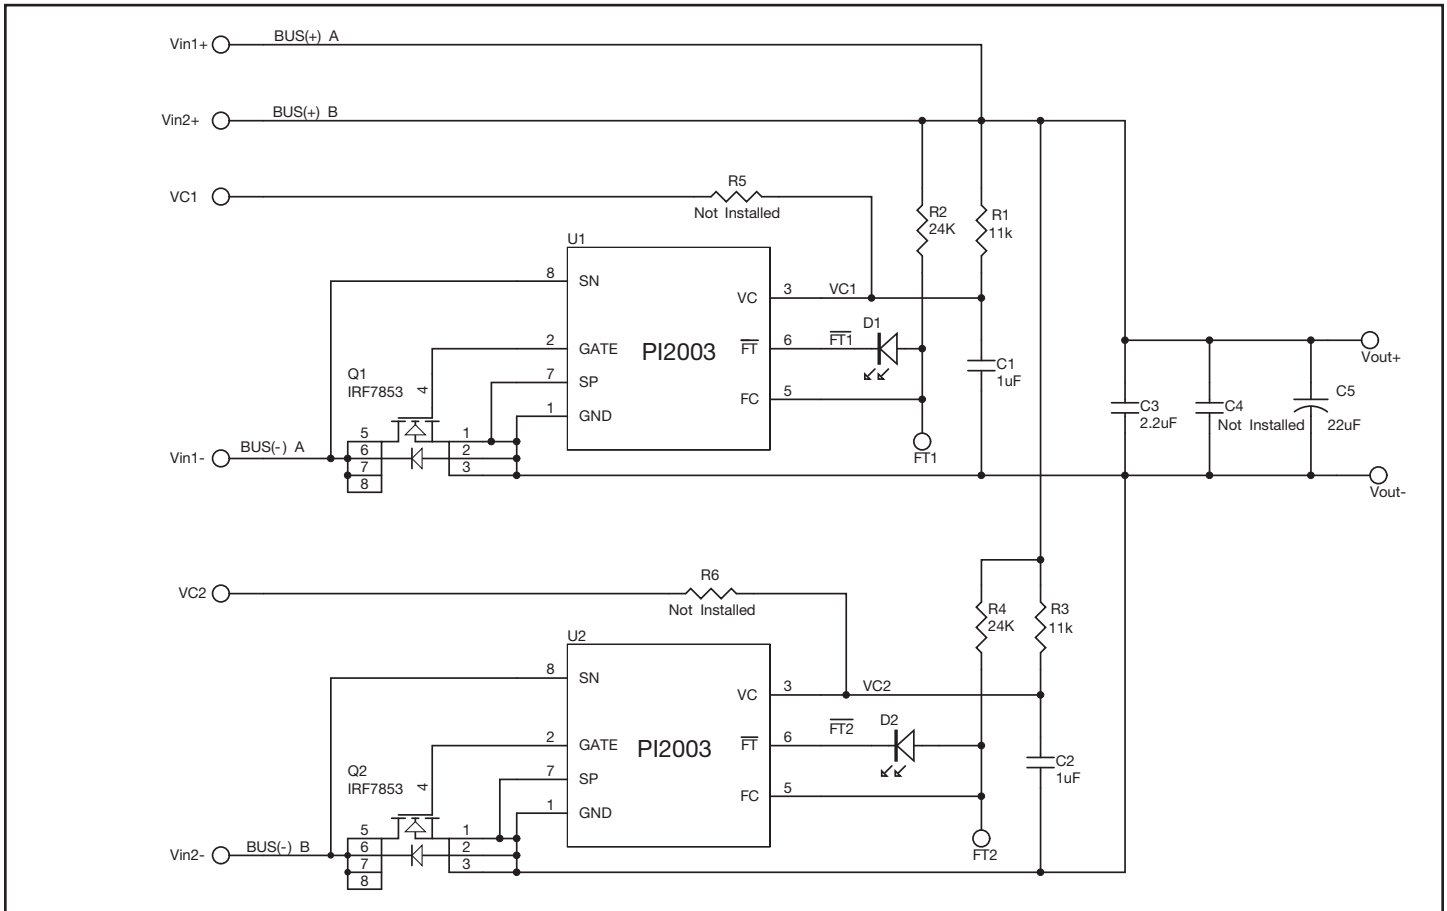

Figure 2 – PI2003-EVAL1 Evaluation Board schematic.
2.1 The PI2003 Controller has a separate input (VC) that provides power to the control circuitry and the gate driver. An internal voltage regulator (VC) clamps the VC voltage to 11 V typically. PI2003 EVAL1 is configured to bias the controllers directly from the bus voltage (Vin1 and Vin2). Two bias resistors (R1 and R3: 11 kΩ, 1/4 W, 0805) are connected from the return input (Vin1+ and Vin2+) to each controller VC pin, see schematic in figure 2. The bias resistors are selected to support -48 V bus voltage (36 V to 60 V).